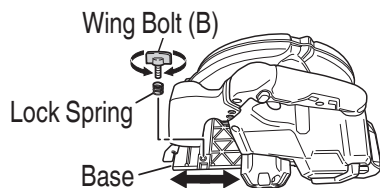

Fig. 21
3. Regulating the guide (Rip fence) (**Fig. 21, 22**)